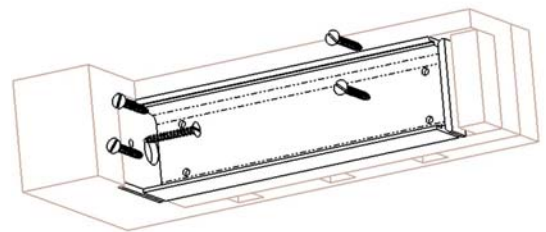

Fig.4b
Dimensions minimum and optimum clamping jaw see page No.3, Fig.2b. Making clamping jaw with of the line cassette is recommended made with finish allowance. First is make mortising on front board into clamping jaw, follow drilling hole for spindle ($\text{Ø}30$ for HV 519(S) and HV 581). See Fig.4a. Then is must insert eventually glue together to remainder parts. Finally, is screw the line cassette . See Fig.4b.